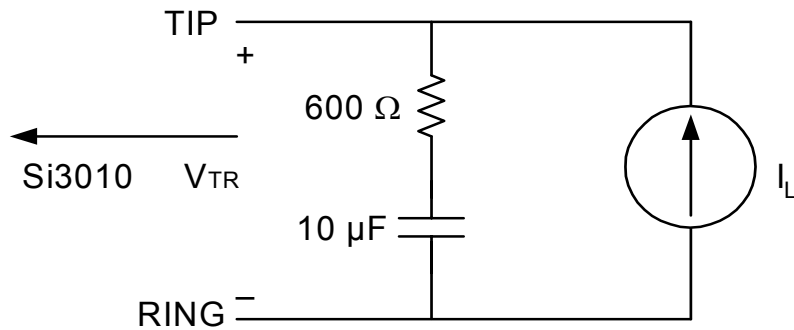

Figure 1. Test Circuit for Loop Characteristics
Table 2. Loop Characteristics(V_D = 3.0 to 3.6 V, T_A = 0 to 70 °C for F-Grade, see Figure 1 on page 6)
1. Measured at TIP and RING with 600 Ω termination at 1 kHz, as shown in Figure 1 on page 6.